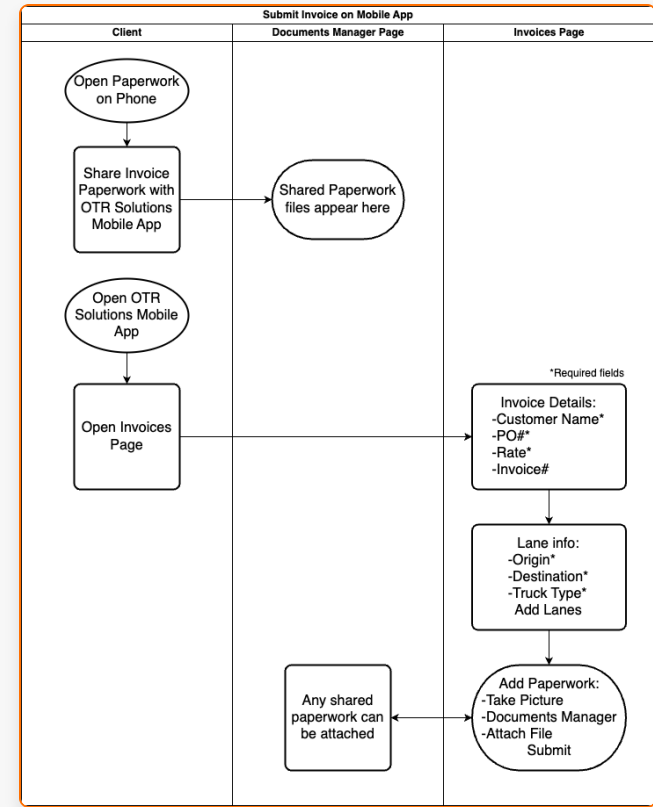

Fig. 3: Invoice Submission Workflow
- **30% Increase:** In invoice submissions through the app's new Invoice workflow (see **Fig. 3**) within the first three months.